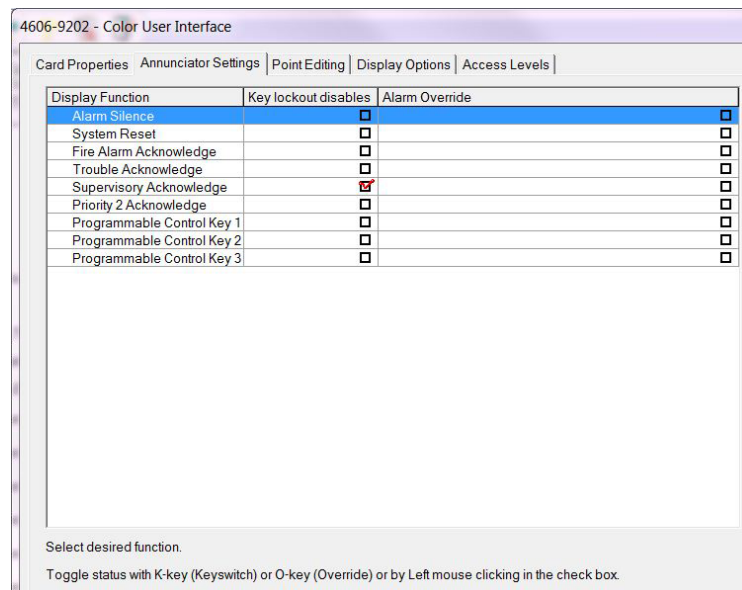

Figure 6-3. Color User Interface - Annunciator Settings Tab
4. Click on the Annunciator Setting tab (see Figure 6-3).